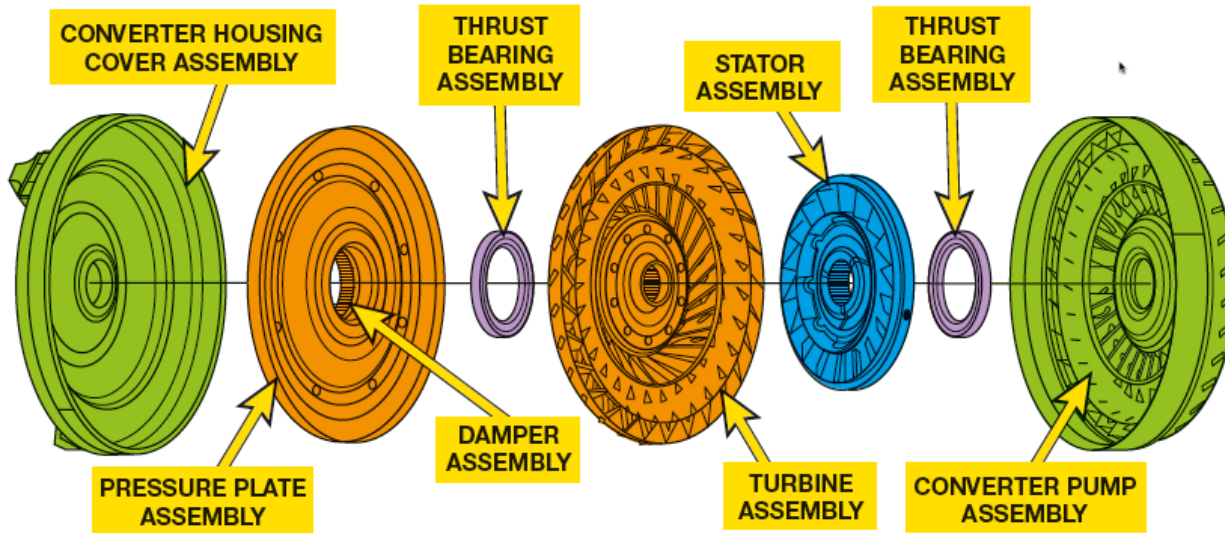

Figure 10. Torque converter and torque converter clutch (pressure plate).
The torque converter clutch (TCC) is PCM controlled. The PCM determines when the TCC is to be applied based on sensor information, such as throttle position (TP), engine load (MAP), and engine temperature. The TCC can be applied in almost any gear, depending on the transmission/transaxle design, and can be monitored using a scan tool. Figure 10.